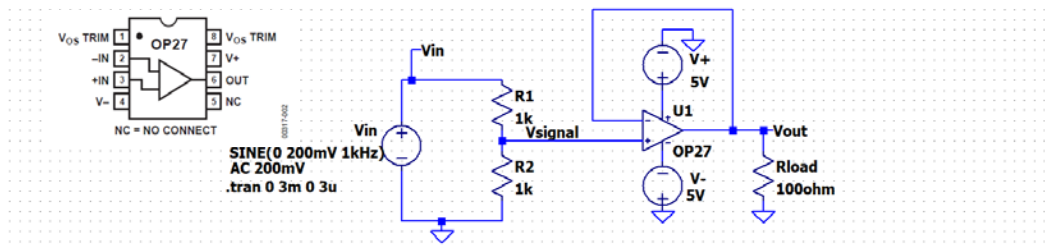

Figure B-3.
- Modify the circuit you created by adding an op-amp voltage follower between R1 and R2, as shown in Figure B-3:
- Run the Figure B-3 simulation, plot the voltage traces for the labelled points and mark the amplitudes on the plot. Copy the plot for your report.
- Recall that  $Z=V/I$  where V and I are phasors. The voltage of interest is  $V_{signal}$  in Figure B-3. The current is the current into non-inverting input of the op amp, the + input.